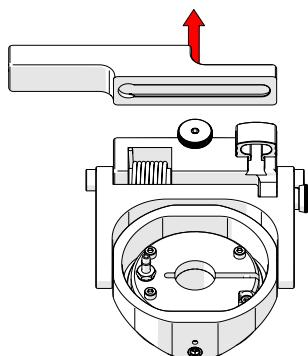

Fig. 137 - Remove bracket
3. If attached, remove the mounting bracket (Fig. 137).